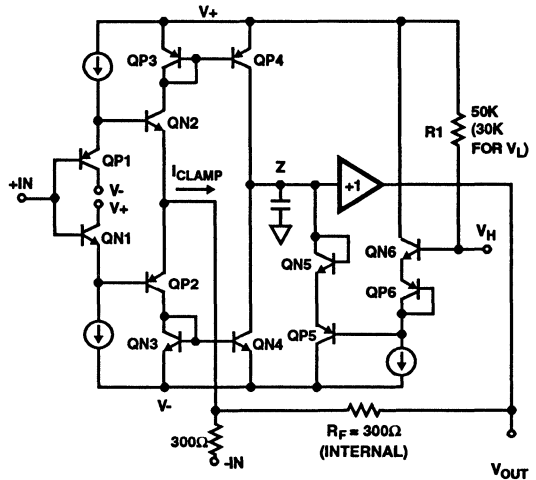

FIGURE 1. HFA1113 SIMPLIFIED V_H CLAMP CIRCUITRY
Figure 1 shows a simplified schematic of the HFA1113 input stage, and the high clamp (V_H) circuitry. As with all current feedback amplifiers, there is a unity gain buffer (QX1 - QX2) between the positive and negative inputs. This buffer forces -IN to track +IN, and sets up a slewing current of $(V_{IN} - V_{OUT})/R_F$. This current is mirrored onto the high impedance node (Z) by QX3-QX4, where it is converted to a voltage and fed to the output via another unity gain buffer. If no clamping is utilized, the high impedance node may swing within the limits defined by QP4 and QN4. Note that when the output reaches its quiescent value, the current flowing through -IN is reduced to only that small current (-IBIAS) required to keep the output at the final voltage.
The clamped output voltage will not be exactly equal to the voltage applied to V_H or V_L . Offset errors, mostly due to V_{BE} mismatches, necessitate a clamp accuracy parameter which is found in the device specifications. Clamp accuracy is a function of the clamping conditions. Referring again to Figure 1, it can be seen that one component of clamp accuracy is the V_{BE} mismatch between the QX6 transistors, and the QX5 transistors. If the transistors always ran at the same current level there would be no V_{BE} mismatch, and no contribution to the inaccuracy. The QX6 transistors are biased at a constant current, but as described earlier, the current through QX5 is equivalent to I_{CLAMP} . V_{BE} increases as I_{CLAMP} increases, causing the clamped output voltage to increase as well. I_{CLAMP} is a function of the overdrive level $(V_{IN} - V_{OUT CLAMPED})$, so clamp accuracy degrades as the overdrive increases. As an example, the specified accuracy of $\pm 80mV$ for a 2X overdrive degrades to $\pm 250mV$ for a 3X overdrive.